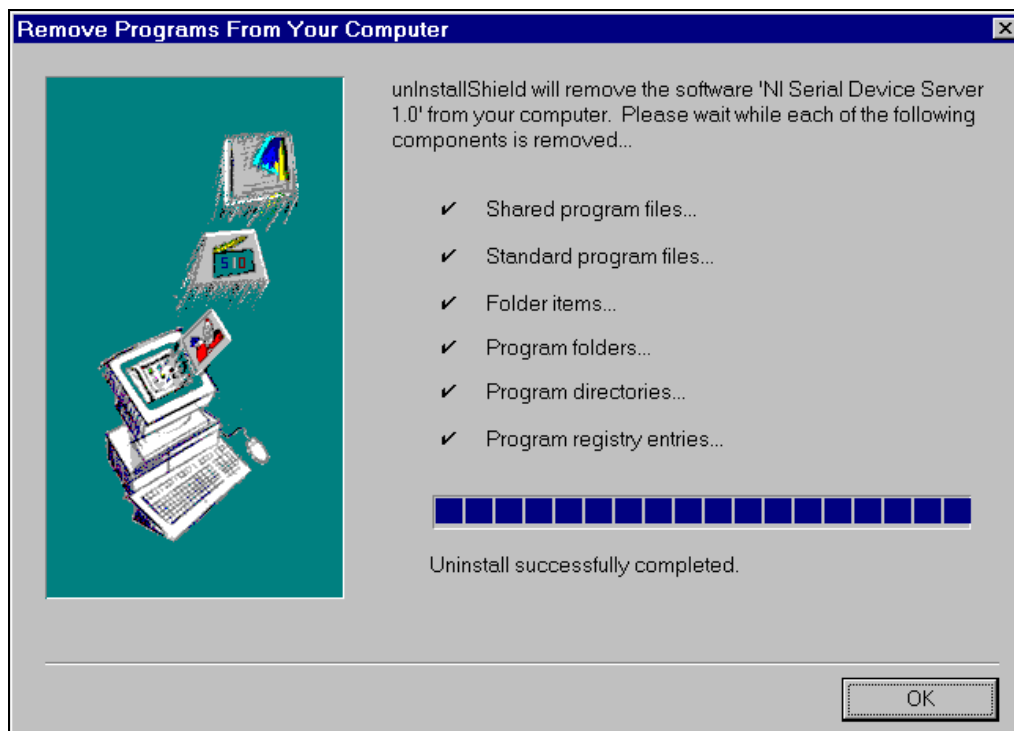

Figure A-3. Successful Uninstallation
3. Select the serial server software you want to uninstall and click **Change/Remove** (Windows 2000) or **Add/Remove** (Windows NT). The Uninstall program removes all folders, utilities, and registry entries associated with the serial server software. Figure A-3 shows the results of a successful uninstallation.